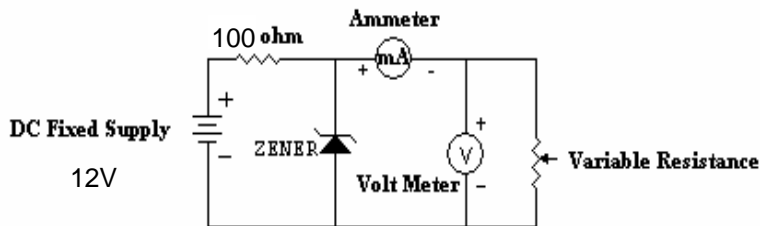

Fig 1
- ii. **LOAD REGULATION:** Fig 1 shows the connection diagram of Load regulation. Here an ammeter is connected in series with R_L & a volt meter is connected across the variable load resistance. Here the dc supply is fixed at 25 volts. Vary the load resistance from 0 onward.